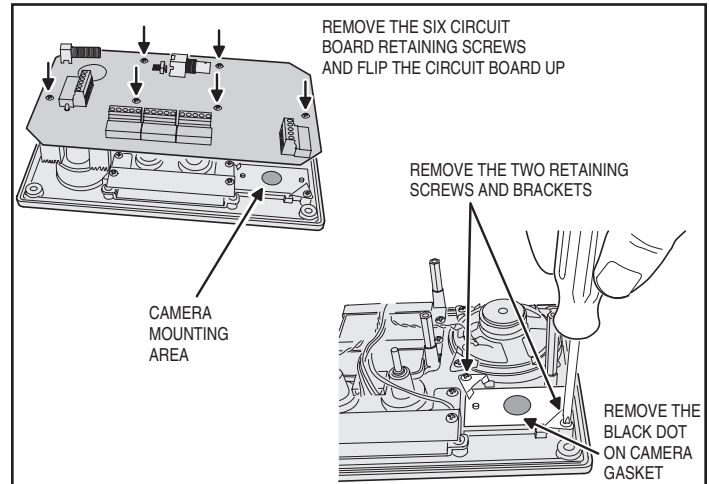

Figure 24. Preparing to Mount the Camera
1. To access the camera mounting location, remove the six circuit board retaining screws and swing the circuit board up (see Figure 24).
2. Remove the two retaining screws and retaining brackets (see Figure 24).
3. Carefully peel off the black dot on the plastic camera gasket (see Figure 24).